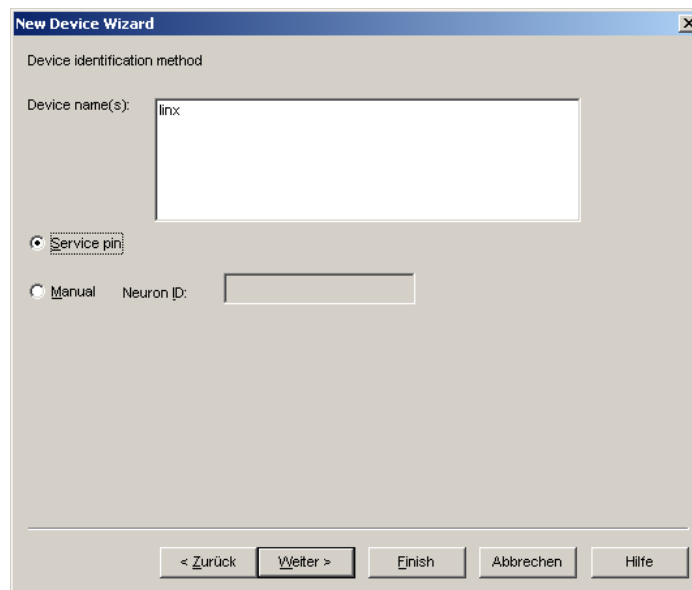

Figure 158: Use Service Pin.
6. Check Service Pin as the device identification method as shown in Figure 158 and click **Next**.